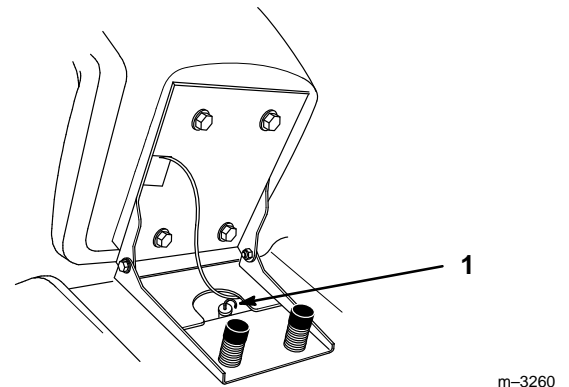

Figure 45
3. Clean around the transmission dipstick (Fig. 45) so dirt cannot fall into the filler hole and damage the transaxle.
4. Pull out the transmission dipstick and wipe the metal end clean (Fig. 45).
6. Slowly pour the specified refill capacity of oil into the filler tube (Fig. 45).